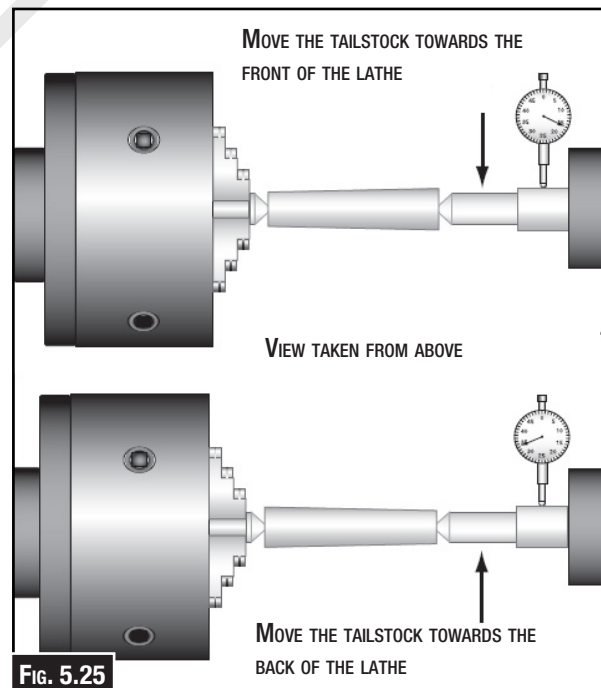

Fig. 5.25
6. Mount a test or dial indicator so that the plunger is on the tailstock quill and set the dial to "0". (Fig. 5.25)